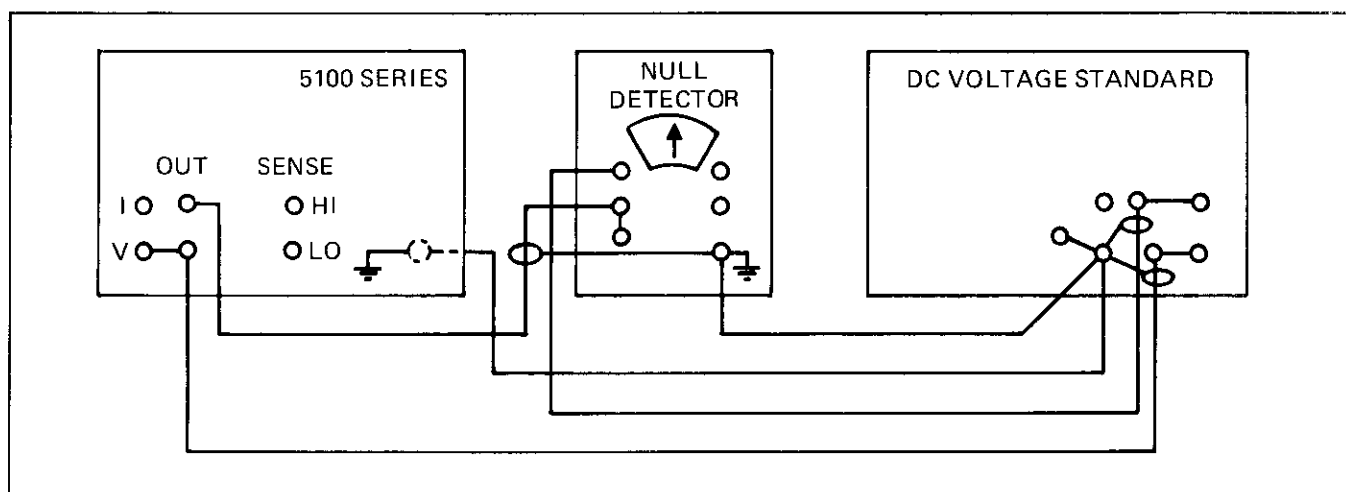

Figure 4-5. DC Voltage Tests
9. Connect the equipment as shown in Figure 4-5. Do not use the null detector built into the DC Voltage Standard.